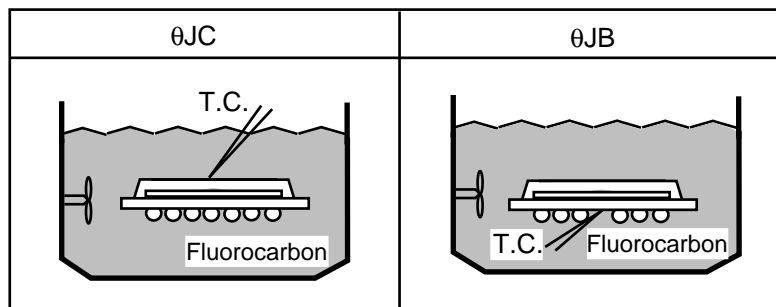

Fig.1 Definition of measurement
- θ_{JC} is measured at the center of mold surface in fluorocarbon.(See Fig1.)
- θ_{JB} is measured on the center ball pad after removing the ball in fluorocarbon. (See Fig1.)